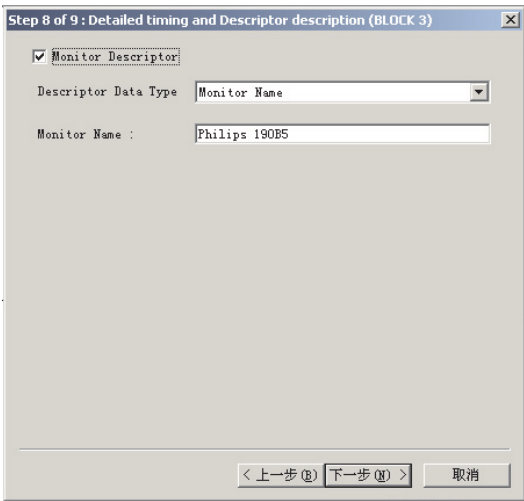

Fig. 33
7. Click Next , bring up Fig. 33.